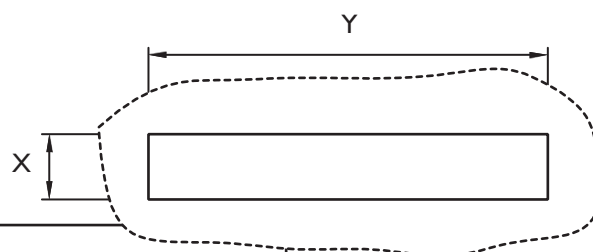

FIG 7
3.1 - Using Table I and Fig. 7 for reference, cut the opening in the ceiling material (NOTE: Fixture can be installed into ceiling with a thickness range of 1/2" to 3/4").